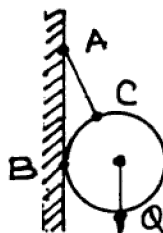

Fig. 1
b) Determine the tension in the tie rod $AC = 300$ mm when a circular roller of weight $Q = 450$ N and radius $r = 150$ mm is rest against a vertical wall at B as shown in Fig. 1. 3